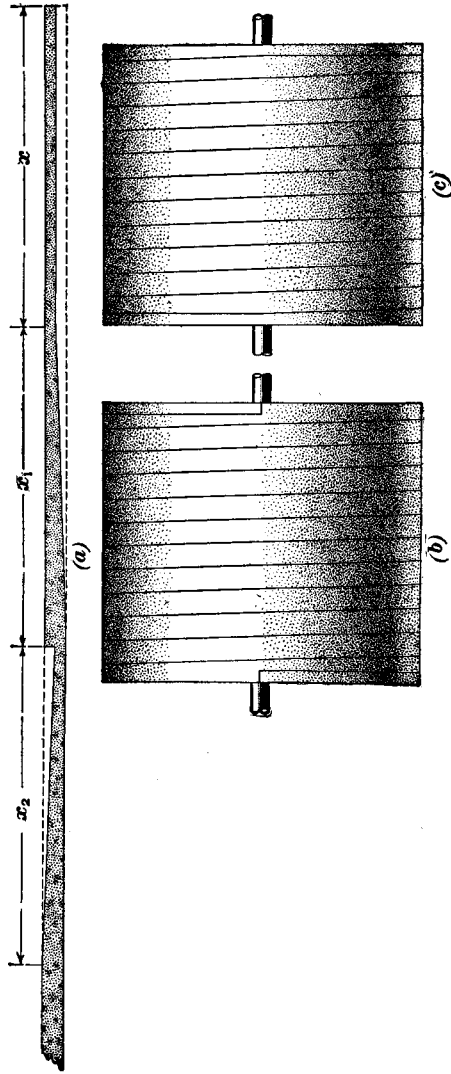

FIG. 14. FILLET WITH INSIDE TAPER
From this you must deduct a little for stretch; about 3% is average. Let's make it 76 in. Now look at Fig. 14 (a). Mark the tail end of the fillet in accordance with the sketch. For the first 76 in., marked x , make a line right in the middle of the fillet. For the next 76 in., marked x_1 , draw a straight diagonal line from the end of your first line to the inside edge of the fillet. For the third 76 in., marked x_2 , draw a straight diagonal line from the center of the fillet to the outside edge of the fillet.
26. Put the tail end of the fillet on the left edge of the card, $\frac{1}{16}$ in. from the edge. Put in a few tacks, and set the tension device at about half the full tension. Turn the cylinder slowly, putting in tacks as you go along. After the cylinder makes half a turn, cut the line you marked under x , Fig. 14 (a). The left